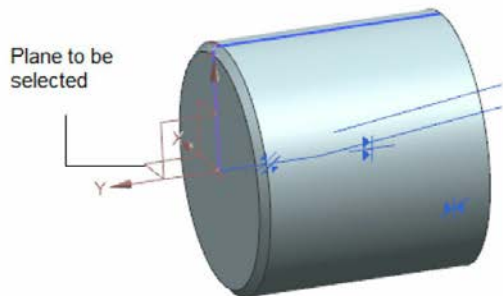
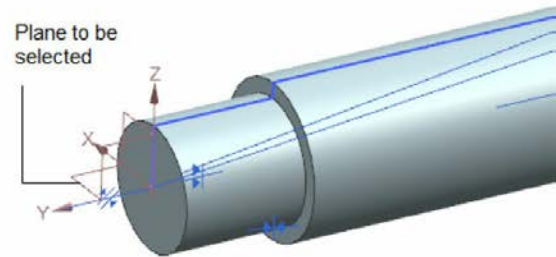

Figure 8-74 Datum plane of the Handle Screw
Figure 8-75 Datum plane of the Handle
10. Select the XC-YC datum plane of the Handle Screw, refer to Figure 8-74, and then select the XC-YC datum plane of the Handle, refer to Figure 8-75.